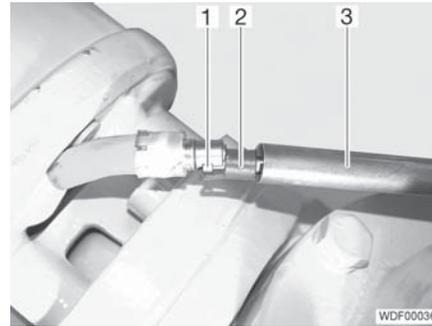

Fig. 267 Bowden cable on the front axle
- Push back the sleeve (Fig. 267,3).
- Carefully bend the hook of the fastener (Fig. 267,2) out to the side.
- Pull out the Bowden cable (Fig. 267,1) to the side.
- Push in the Bowden cable (Fig. 267,1) at the side.
- Push the fastener (Fig. 267,2) towards the brake drum and secure it with the hook.
- Push the sleeve (Fig. 267,3) over the fastener.